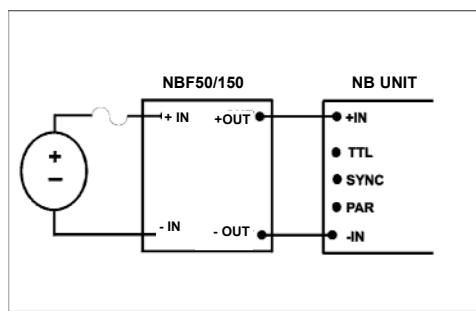

Figure 9
**F**or applications where electromagnetic interference is a concern, the NBF (50 and 150 watt capable), a passive input line filter, may be installed at the input of the NB series converter (see figure 9). With the NBF Mil-Std-461D, CE101-4 and CE102 are within compliance on the input leads. Test reports characterizing both filters for conducted and radiated emission and susceptibility are available. Filters guarantee conducted emissions (on the input leads) only. All test reports are certified by an independent testing lab.